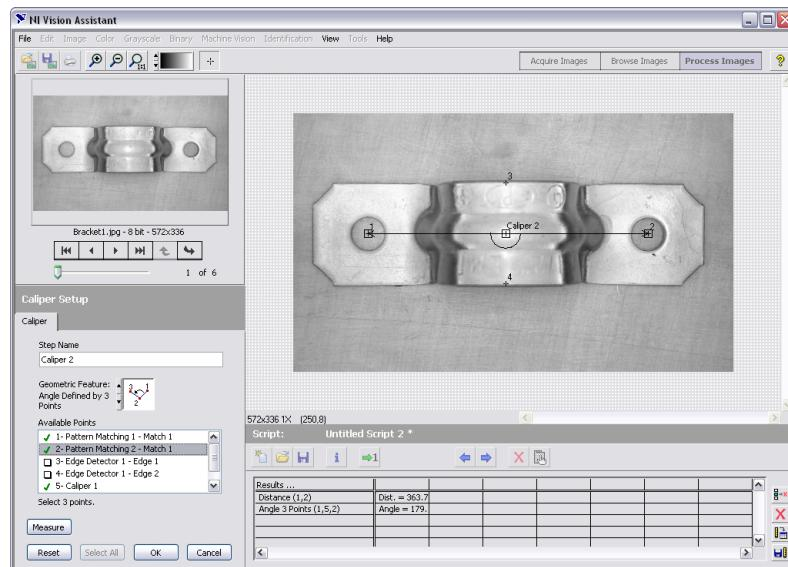

Figure 4-8. Using the Caliper Tool to Collect Measurements
- Select **Angle Defined by 3 Points** in the **Geometric Feature** listbox. Click points **1**, **5**, and **2**, in this order, to find the next measurement—Bracket Angle—which measures the angle of the bracket arms with respect to a vertex at point **5**, as shown in Figure 4-8.
Figure 4-8 shows the image with Bracket Distance and Bracket Angle selected on the image and displayed in the results table.